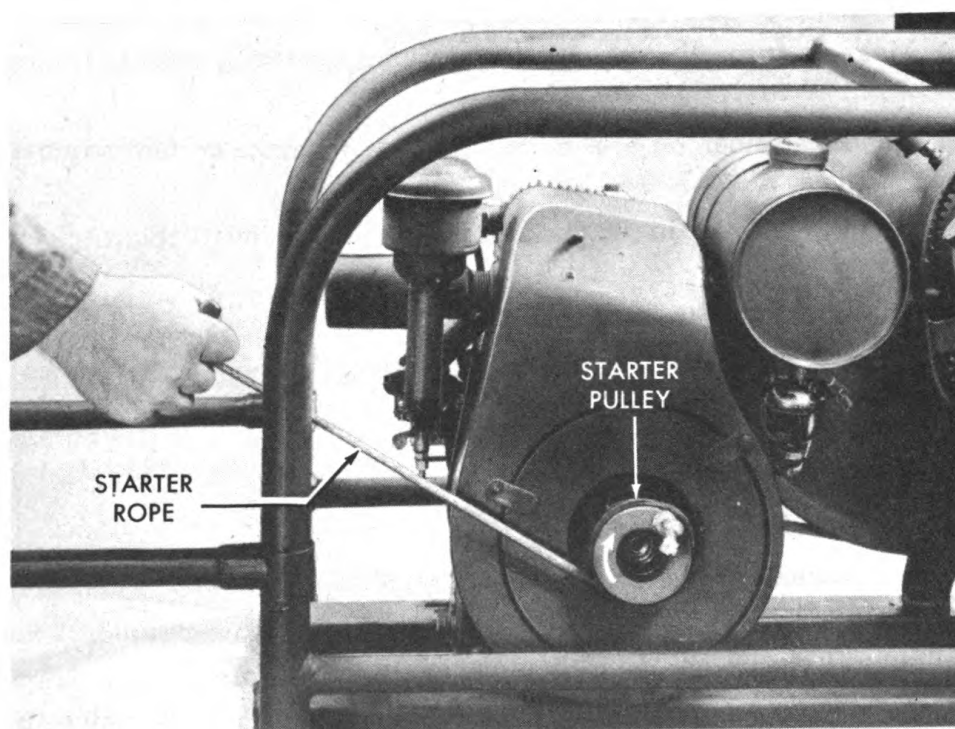

Figure 16—Starter Rope Installed
- (3) Slip knotted end of starter rope in notch of starter pulley and wind rope clockwise around pulley (figure 16).
- (4) On the first explosion, open choker and adjust needle valve to best running position as the engine warms up.